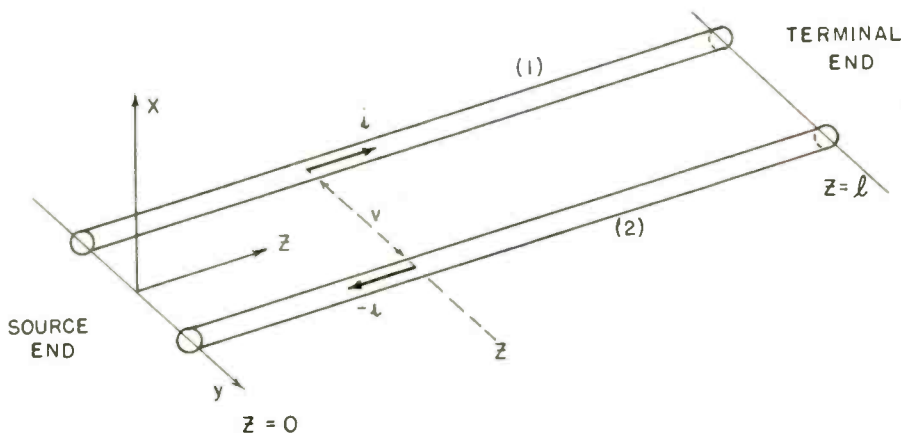

Fig. 1. Conventional two-wire transmission line
Assume a comparatively long line as in Fig. 1, with dc or low frequency ac voltage applied. At any point z along the line, we presume that we can measure current i with an ammeter and voltage v with a voltmeter in the conventional way. Two basic assumptions are involved in this procedure, firstly that the manner of connecting between the voltmeter and the two opposite points on the line is irrelevant, and
Considering the line in Fig. 1, we can state the current voltage relations, if we disregard both resistance and leakance, in the simple form
The power passing through any cross-section of the transmission system as given in Fig. 1 is conventionally measured as vi and can be expressed with (9) and (10) for the forward wave as